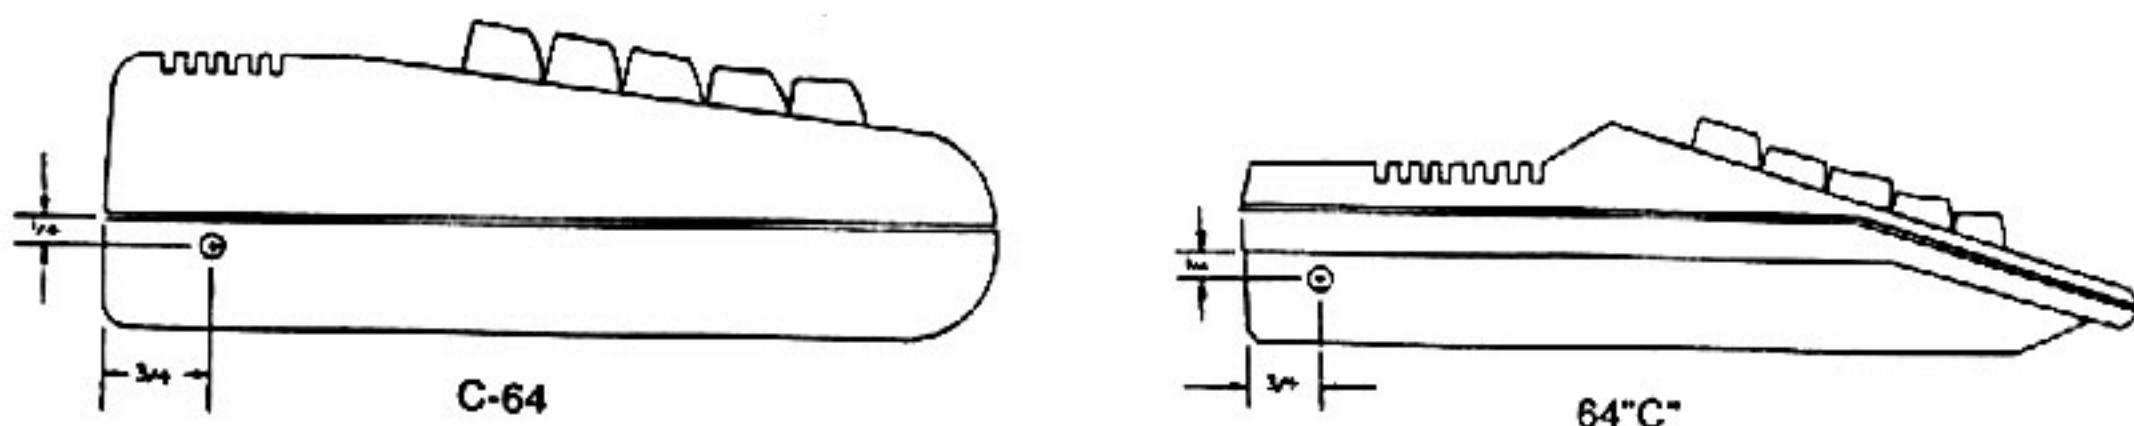

Figure 4 SUGGESTED SWITCH LOCATIONS
19. Drill a 1/4" hole in the lower case assembly of the computer to accommodate the Kernal Selector Switch. A suggested location is given below in Figure 4.